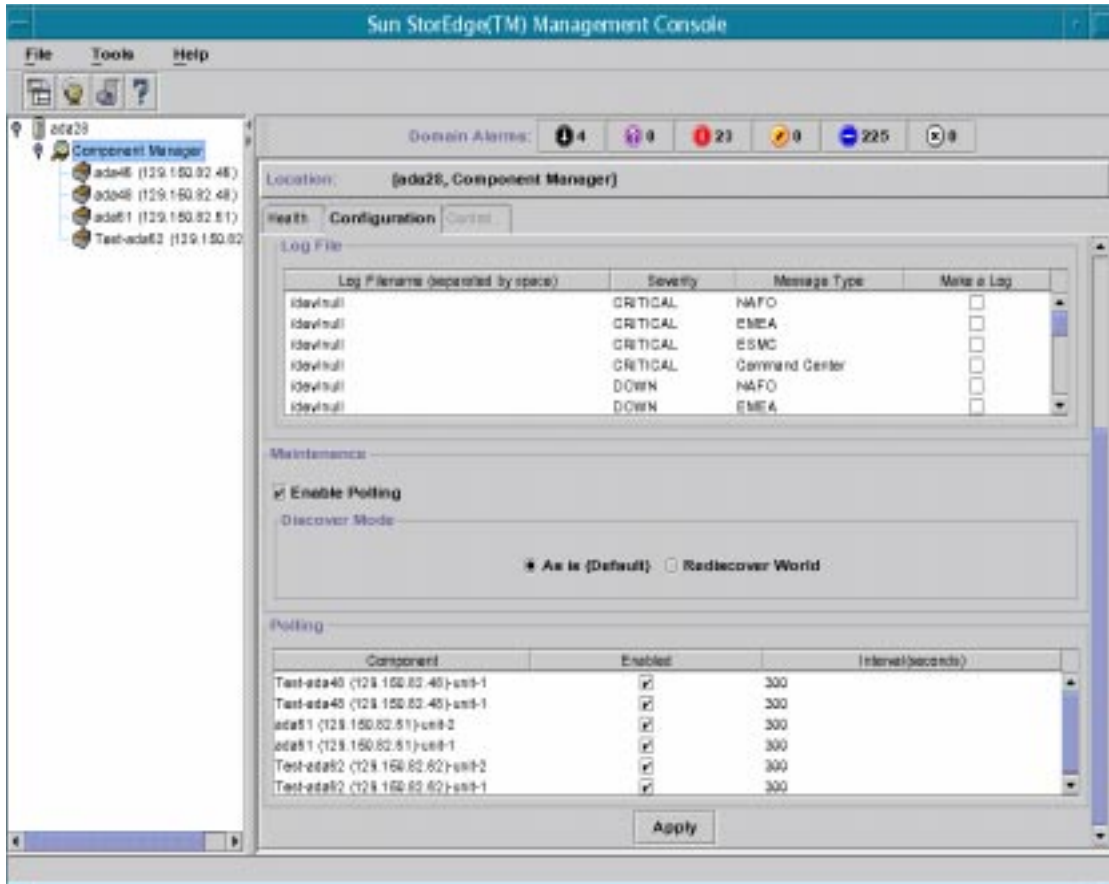

FIGURE 3-4 Component Manager Polling Window
*Hardware polling* is the time interval that Component Manager uses to poll and monitor the subsystem hardware components. You can customize hardware polling by either changing the time interval or by disabling or enabling the function to suit your own needs. See FIGURE 3-4.